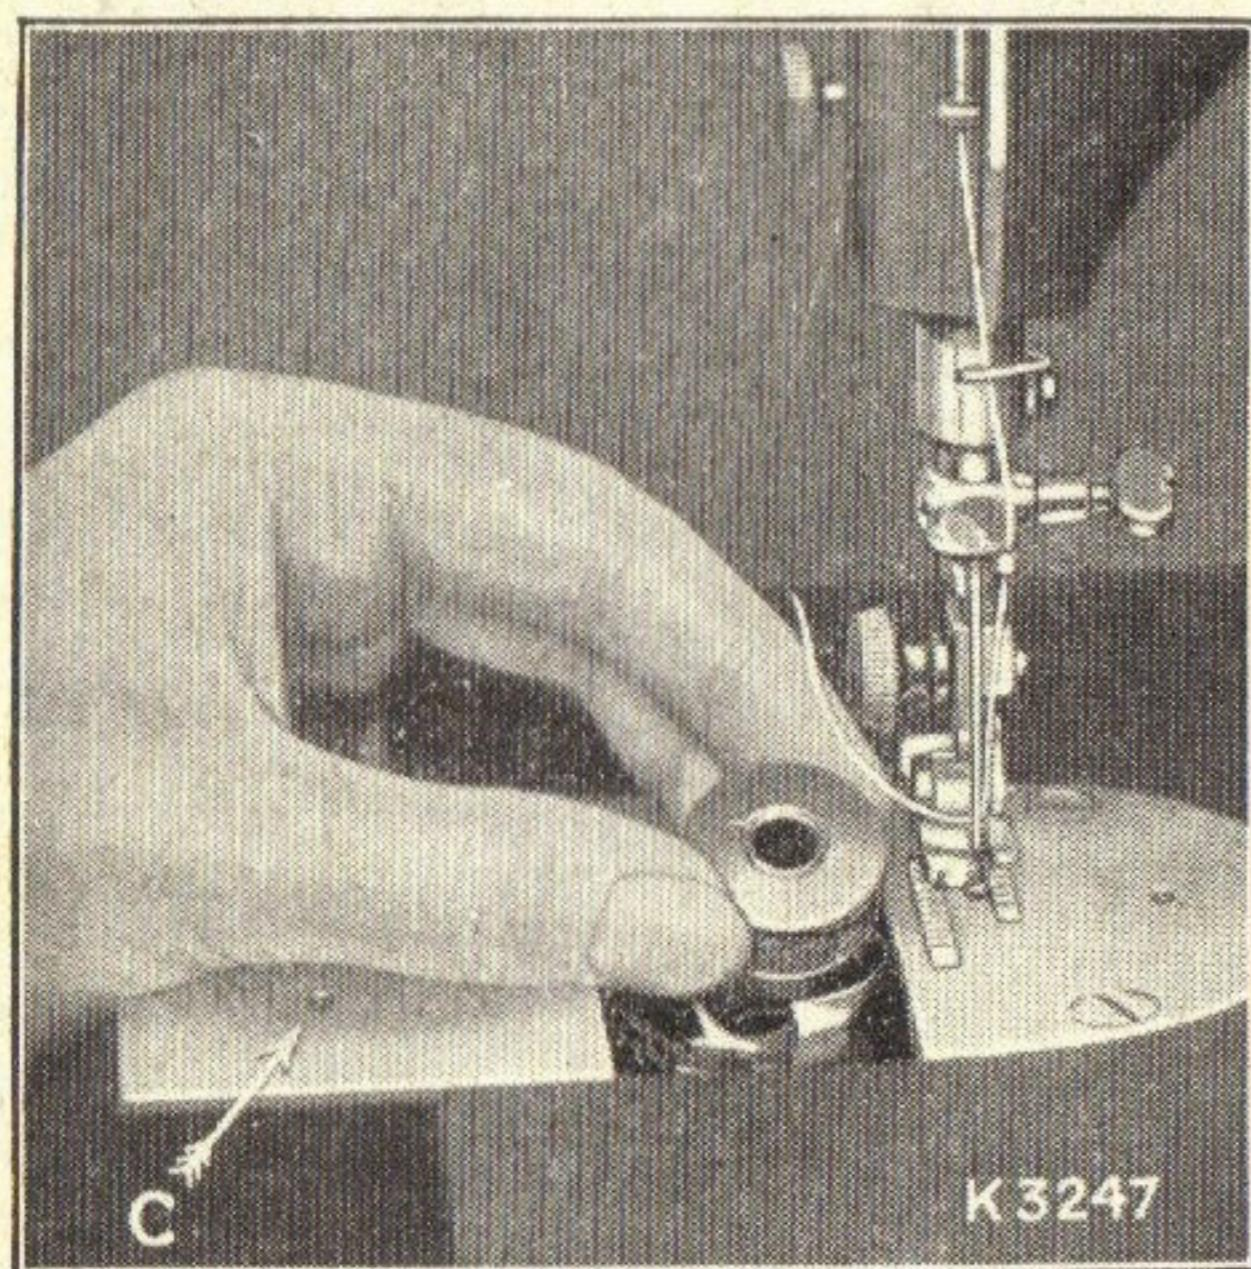

Fig. 2.
Draw to the left the slide (C) in the bed of the machine and remove the bobbin with the thumb and forefinger of the left hand, as shown in fig. 2.